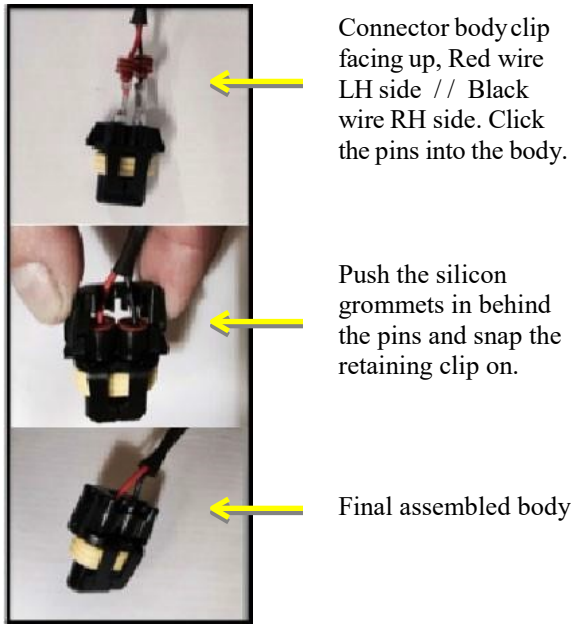

Figure 2d
10. Tighten screws: thread to bottom and then one quarter turn. Do Not Over Tighten. Insert the Bed Light LED assembly harness pins into the connector body and snap on the connector retaining clip. (Fig. 2d)